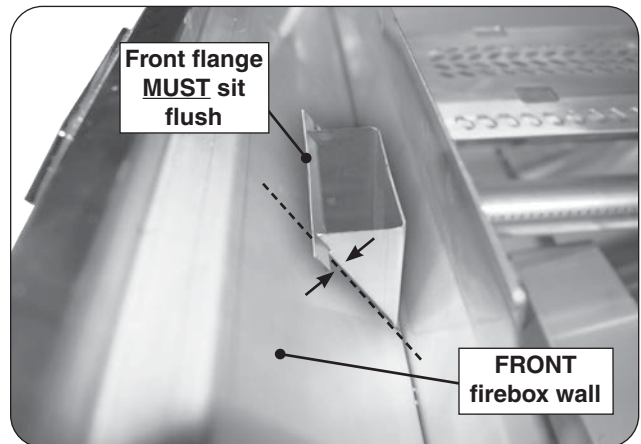

Fig. 28-3 Drip tray chute installed
3. To replace, drop the chute back into the top and bottom cutouts of the front firebox wall. The front flange MUST sit flush against the firebox wall. See Fig. 28-3.